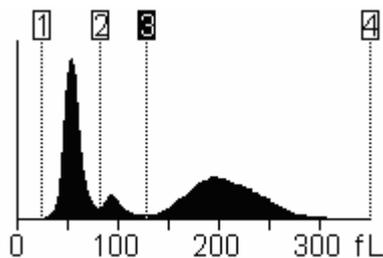

Figure7-24 Adjusting discriminator (1)
3. Press [3] to select the third discriminator, as Figure7-24;